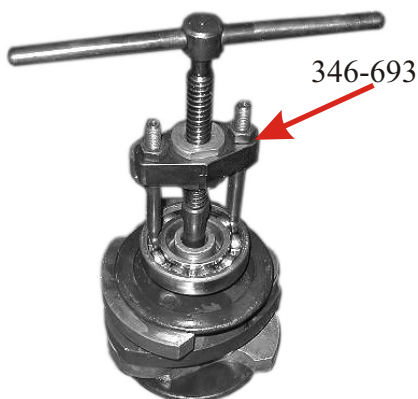

Fig. 21
- Use puller 346-693 (Fig. 21) to remove the bearing from the front journal of the crankshaft. (The cage of the bearing must be broken and balls displaced to position the device between internal and external cages of the bearing).